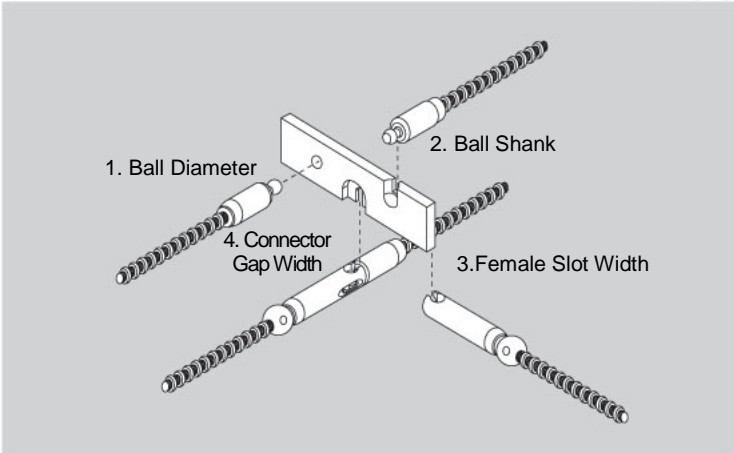

Figure 3.5 No-Go gauge tests
- d. A final check of the control cable connector and source assembly connector is accomplished by use of a Model 550 NO GO gauge to check for significant wear on the connectors that would affect safety. Without using excessive force, check the following four positions (see figure 3.5):